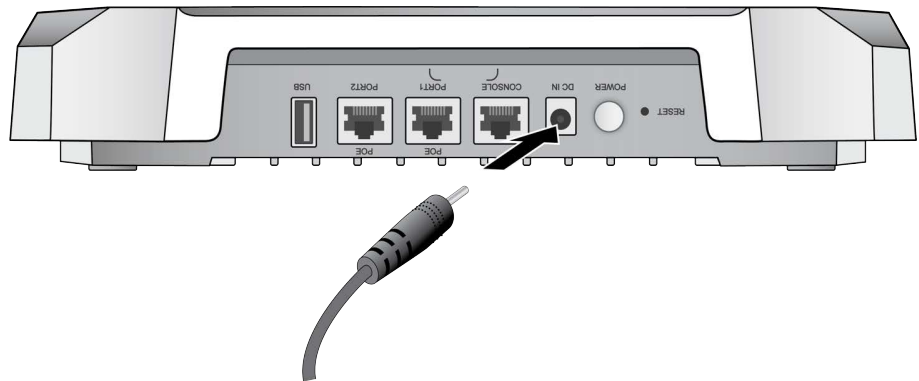

Figure 21. Connecting an AC Power Adapter to the Access Point
2. Plug the DC connector of the power adapter into the DC IN jack on the access point. Refer to Figure 21.